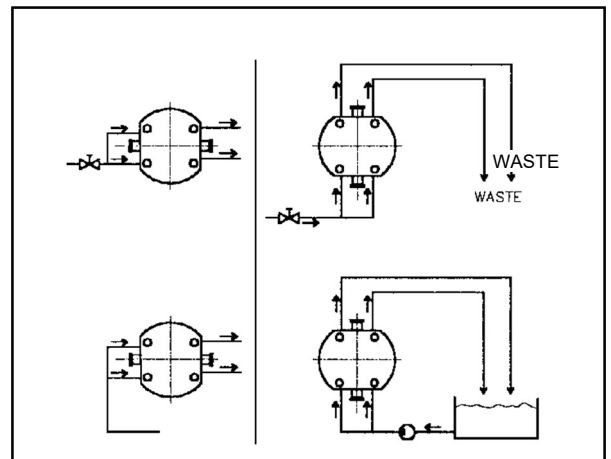

Figure 5a: Suggested Low Pressure Flushing System
- A low pressure sterile barrier is required. The system can be installed as in Figure 5a but must be capable of withstanding the full pressure within the pumped fluid pipe system.